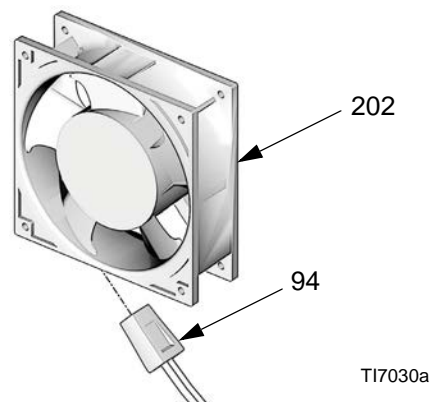

FIG. 63: Fan
3. Remove screws (10) and control board cover (61) to expose the control board (12).
4. Disconnect all cables and connectors from board (12).
5. Unplug cable (94) from fan (202). See FIG. 63, page 44.
6. Remove screws (13) and board (12).
7. Remove screws (10).
8. Feed proportioner cables out of grommet in the cart (1) and lift the cart off of the motor.